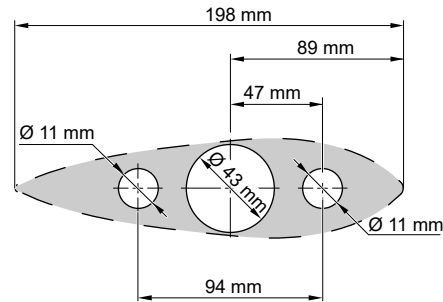

Fig. 46: Dimensions
1. Drill three holes in the boat's hull for installing the pod, **see "Fig. 46: Dimensions"**.